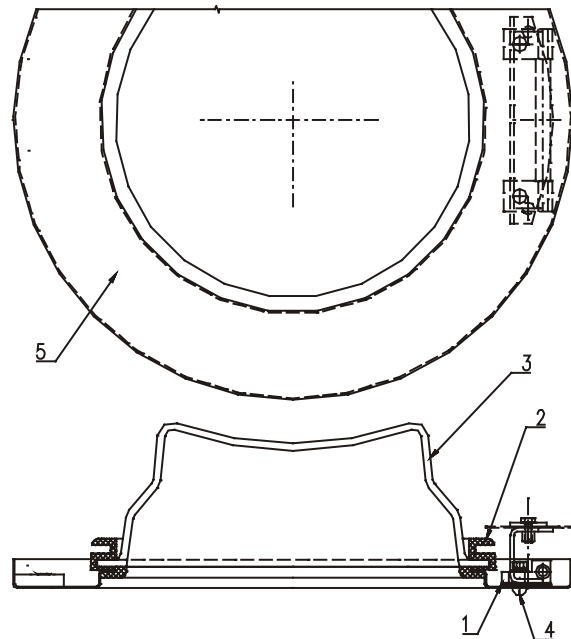

Fig. 5.2.A. Door fastening
1. Loosen two bolts (6) fastening the top door hinge (7), fig. 5.2.B.
2. Take off the elimination washer (8).
3. Tighten the two bolts (6) fastening the top door hinge.